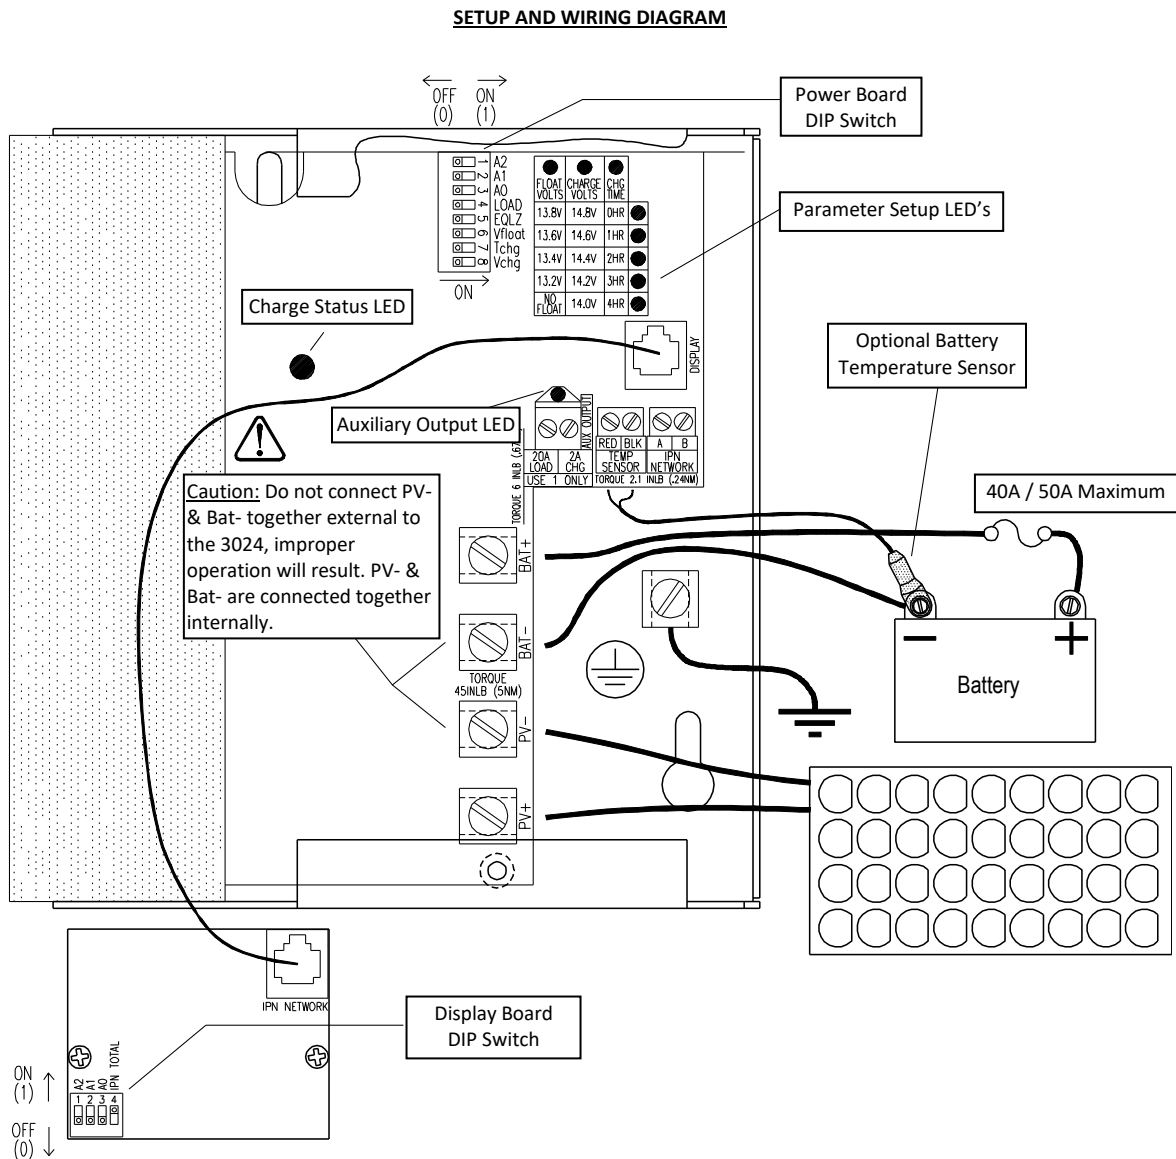

FIGURE 3
➤ Setup parameters are divided into two categories, **Basic** and **Advanced**. Basic parameters can be configured with the 3024 alone within limited steps and ranges as shown in Figure 3. Advanced parameters require the IPN ProRemote to access. The IPN ProRemote also allows basic settings to be configured in smaller steps and over wider ranges. All setup parameters are retained if power is lost, or the IPN ProRemote is used as a setup tool only and removed.
2. Turn ALL 8 power board DIP switches shown in Figure 3 ON.
Absorption (Acceptance) Charge Voltage, Float Charge Voltage and Charge Time setpoints can be viewed or changed using the parameter setup LED's and DIP switch shown in Figure 3. Operate only one switch at a time. To view the present setting turn the appropriate DIP switch ON momentarily (V_{CHG} #8, V_{FLOT} #6 or T_{CHG} #7). For a 24V battery the actual voltage setpoints are doubled.
The auxiliary output can serve one of three functions; 1) a 2A auxiliary battery charger, 2) a 20A load controller with Low Voltage Disconnect (LVD), or 3) a 20A variable Dusk-to-Dawn lighting load controller. The Charge/Load function is selected by DIP switch #4 shown in Figure 3. The IPN ProRemote is required to adjust LVD thresholds or enable Dusk-to-Dawn lighting control. Auxiliary outputs in a multi-controller system will function normally, but only the auxiliary output in the master can be configured or monitored using the IPN ProRemote. The auxiliary output "Load" LED will illuminate whenever the auxiliary output is ON (*).